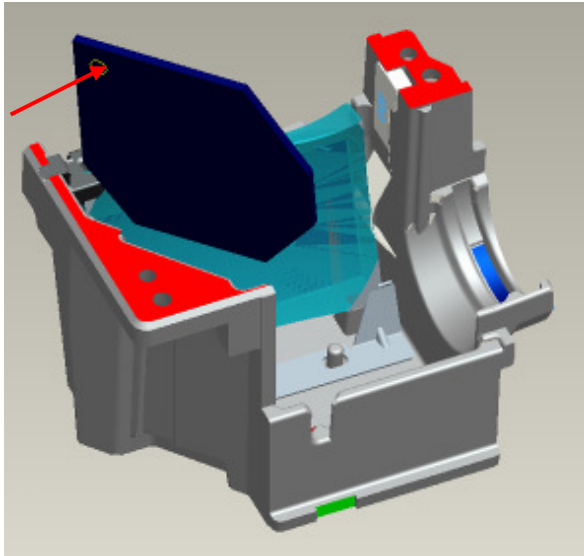

Fig. 2-6-1
- i. Check mark point of FM and place FM on “Sub HSG” surface (Fig. 2-6-1, 2-6-2).